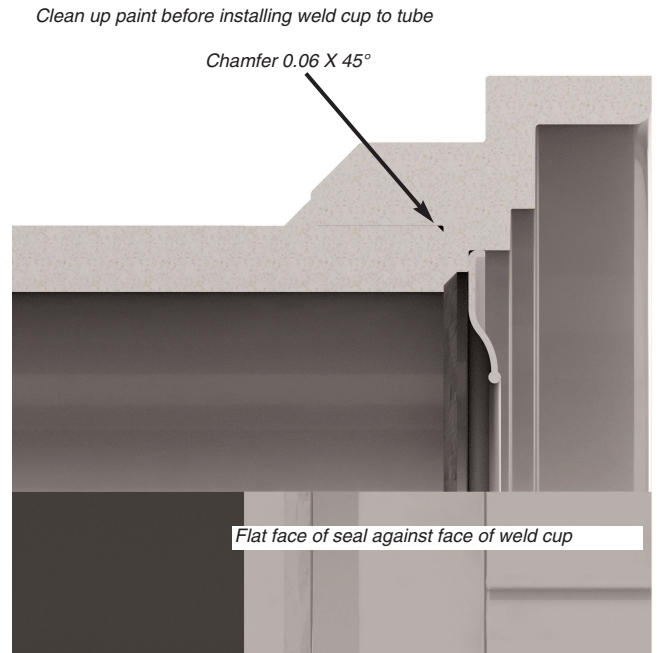

Figure 2: Housing Tube Cleanup
- 3) Remove any paint from housing tube and clean thoroughly. Chamfer the OD edge of the housing tube to roughly 0.06" X 45°. see Figure 2.
- 8) Press FRR-014 seal(s) into outboard side of weld cup. See Figure 2 for seal orientation.